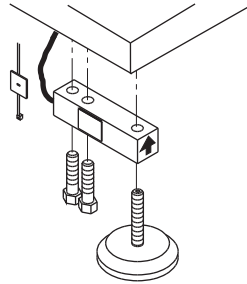
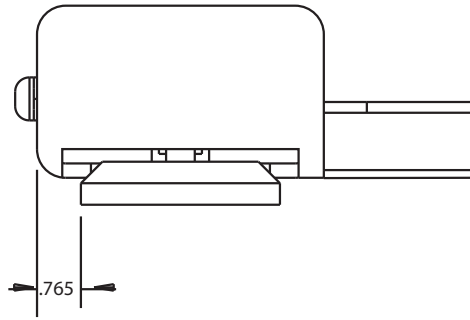

Figure 6-1. Load Cell Assembly
Figure 6-3. Foot Pad - Side View
4. Position load cells with alignment arrows pointed up toward the deck and loosely install the hex head cap screws provided, as shown in Figure 6-1. If the base is used with an access ramp, position the load cell to maintain the dimension shown in Figure 6-3. With the torque wrench, tighten all bolts to 75 ft-lbs.